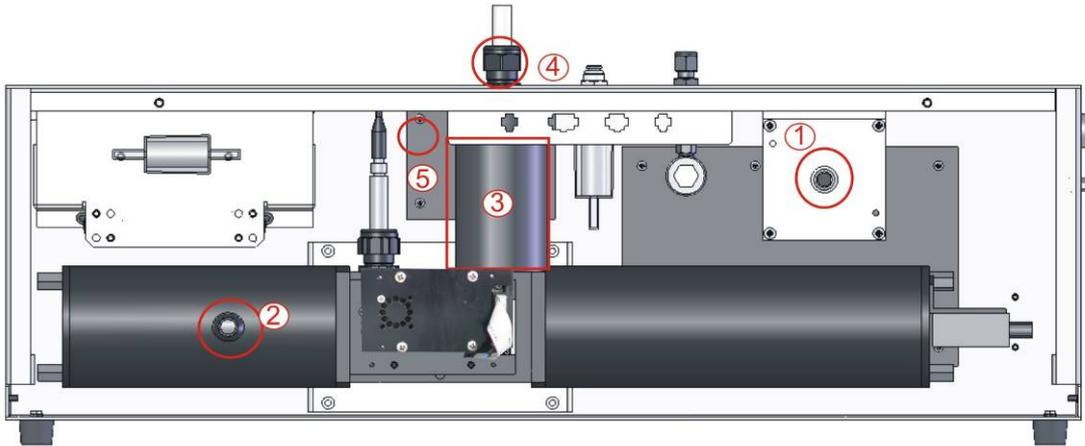

Figure 44 – Internal pneumatic tubing
2. Remove black exhaust tubing from the exhaust fan (1) and the optical chamber (2) as shown in Figure 44.
3. Unscrew the black gland on top of the nephelometer (4).
4. Remove the sample heater from its connector (5) and gently pull the main inlet down until it is out.
In order to clean all parts of the optical chamber, the optical chamber should be completely removed from the nephelometer. This procedure should also include the step for cleaning the Measurement cell as in section 6.3.2. Refer to Figure 44 above for component locations.